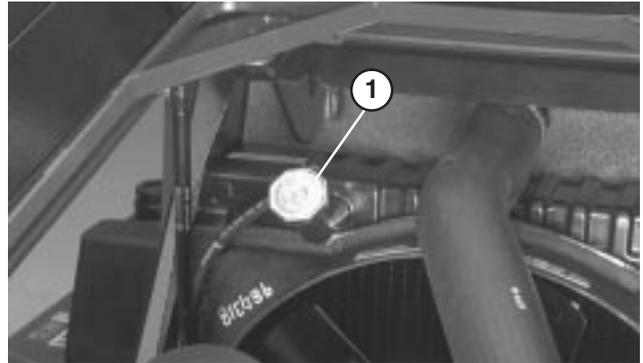

Figure 5
2. Remove radiator cap (Fig.5). Level of coolant must be above the radiator core and about 1 in. (25 mm) below bottom of filler neck.